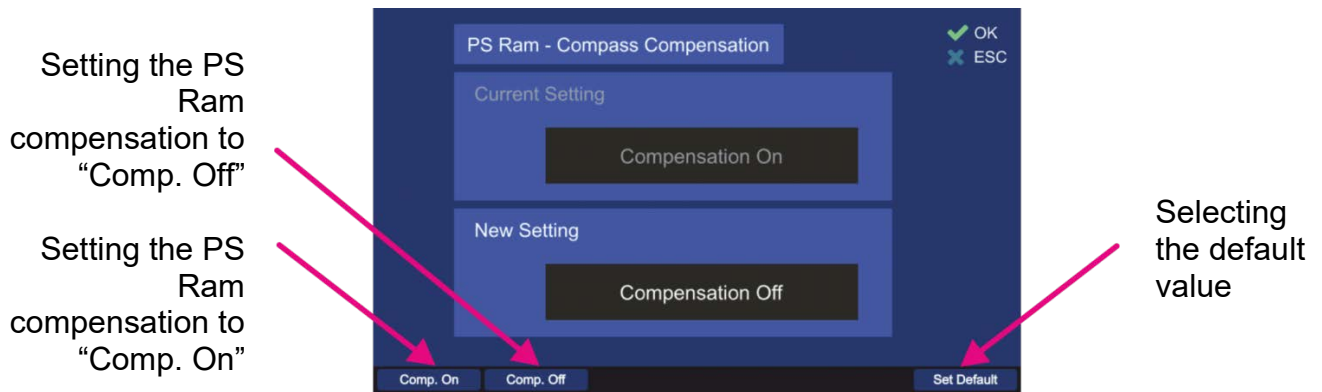

Fig. 127 PS Ram compensation dialog
- Choose the new setting using one of the hotkeys (s. Fig. 127), which will then appear in the “New Setting” field.